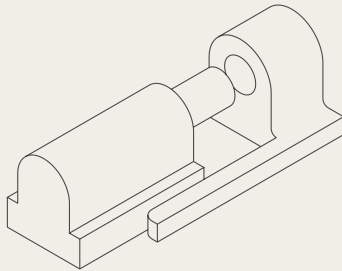
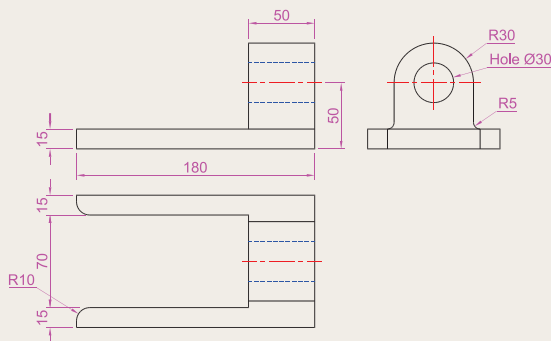

Fig. 7.23 Exercises 1, 2 and 3 – an isometric drawing of the three parts of the slider on which these exercises are based
Fig. 7.24 Exercise 1
Figure 7.23 is an isometric drawing of a slider fitment on which the three exercises **1, 2** and **3** are based
- Figure 7.24 shows a first angle orthographic projection of part of the fitment shown in the isometric drawing in Fig. 7.23. Construct a three-view third angle orthographic projection of the part.